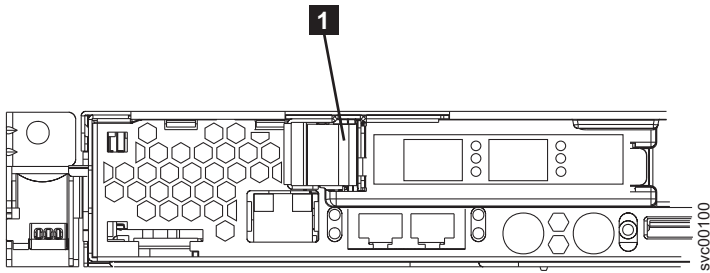

Figure 180. SAN Volume Controller 2145-8F2 or SAN Volume Controller 2145-8F4 PCI slot 1 card retainer
- a. Pull the blue PCI card retainer **1** from the rear of the node, shown in Figure 180 on page 167.